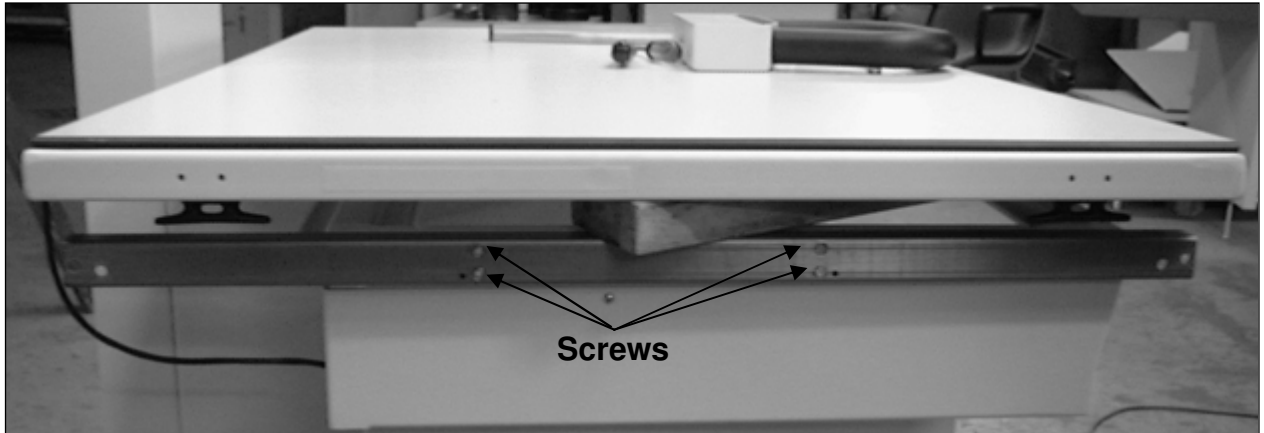

Figure 10: Left bearing track
8. Raise the upper tabletop frame to expose the transverse motion bearing track. Remove the four screws from the left bearing track as shown in Figure 10 below.